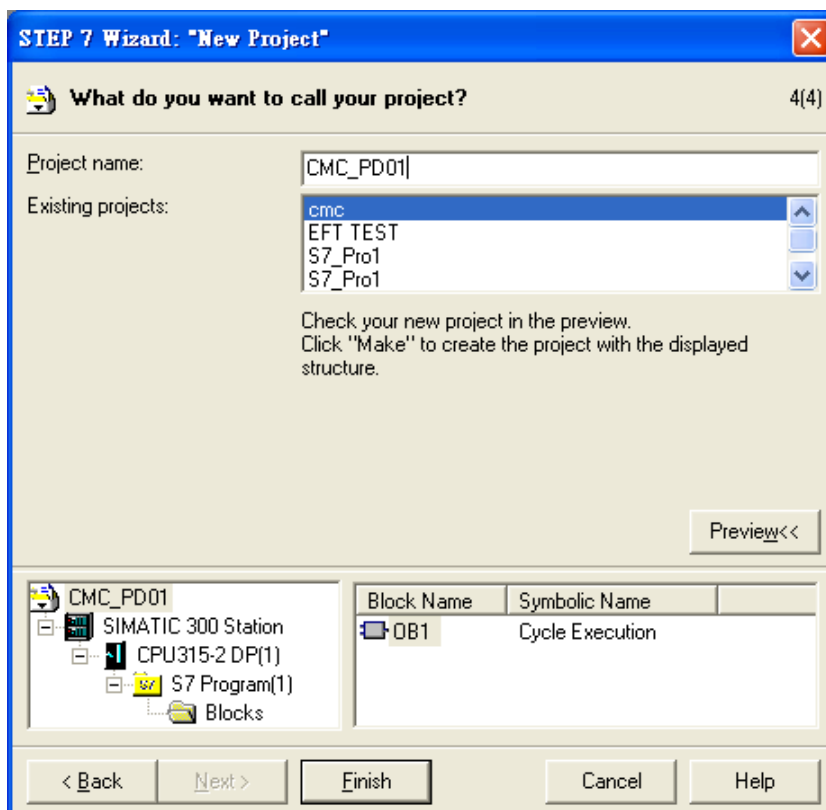

Figure 7-7
6. Enter the project name and click "Finish". See Figure 7-7.